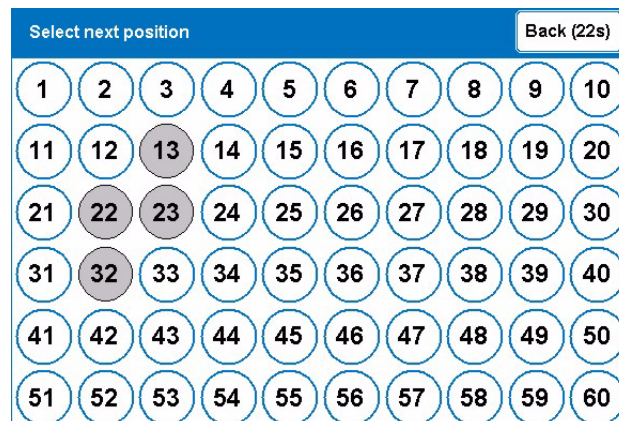

Figure 9.11 Position Selection Screen
- The selection screen (Figure 9.11) will be displayed again:
- ▶ The selection screen (Figure 9.11) will be displayed again.